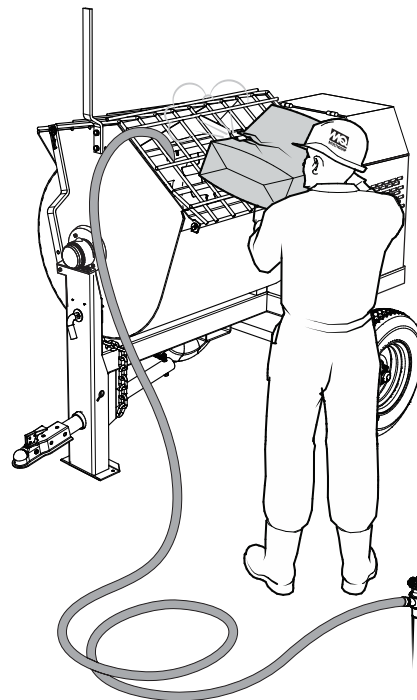

Figure 30. Fill Mixing Drum
4. The paddle shaft inside the drum should be rotating at this time. Add a small amount of water to the mixing drum (Figure 30).
5. Lift the mixing bag compound onto the steel safety grate over the **bag cutter** and let the contents fall into the drum (Figure 30). Add more water if desired and mix the compound to the desired consistency.